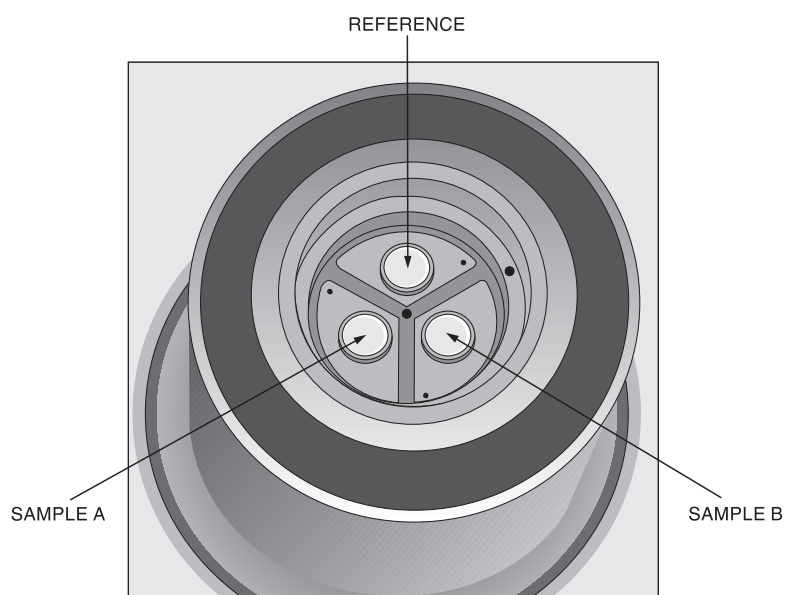

Figure 3.6
- b. *Dual Sample Cell*: Place the two samples and an empty reference pan on the raised platforms shown in Figure 3.6. Sample A should be placed on the left platform and Sample B on the right. Be sure to place the samples directly over the platforms at an equal distance from one another.